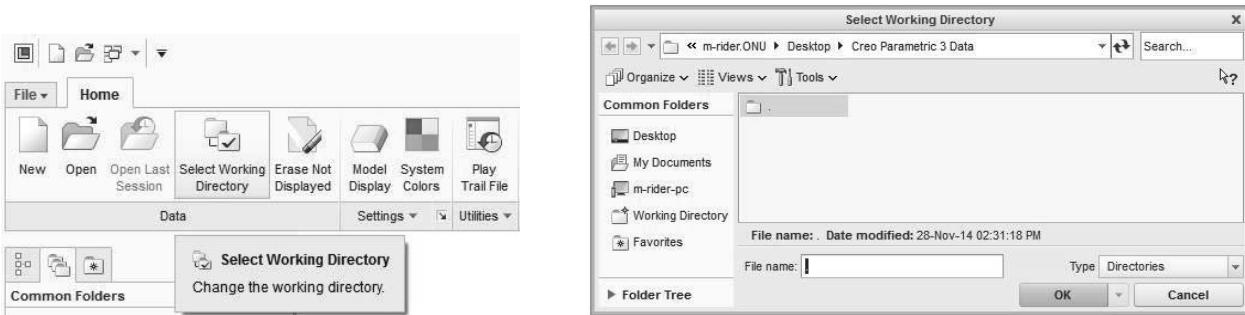

Figure 3-16 Set Working Directory
Step 2: Set your working directory, by *selecting* the **Select Working Directory** icon in the Home ribbon. Locate your working directory, and then *pick* **OK**. See Figure 3-16.